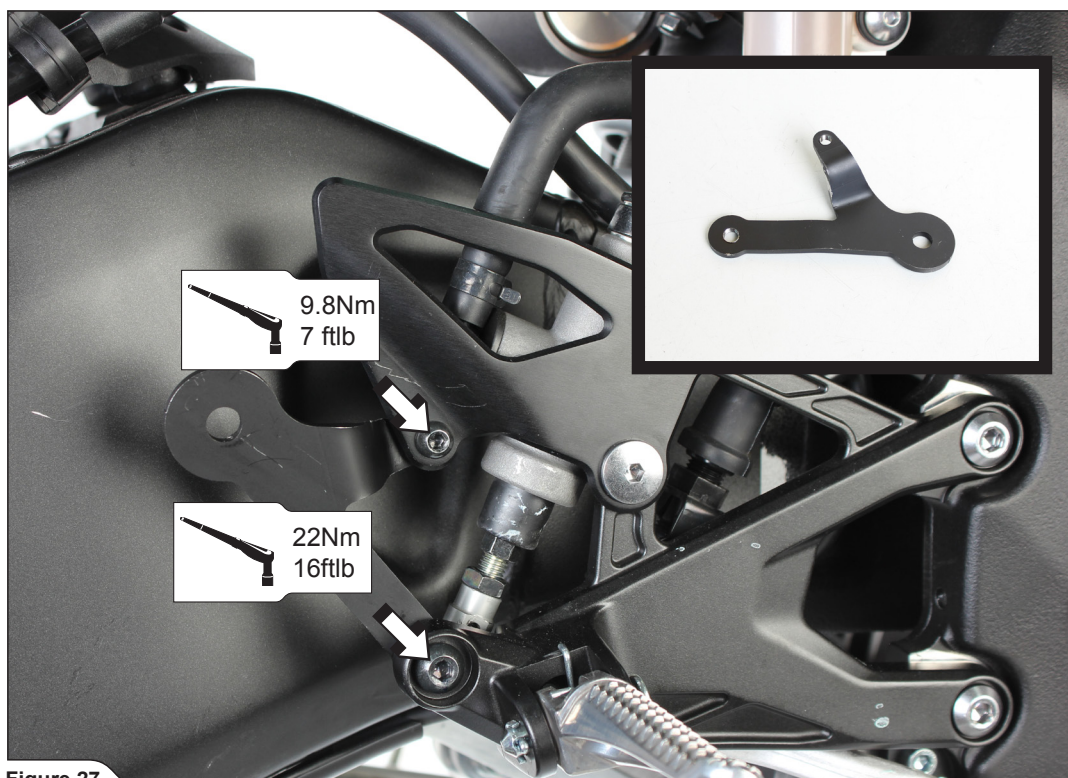

Figure 27
4. Mount Akrapovič muffler bracket onto the motorcycle, as shown and tighten with specified torque (**Figure 27**).